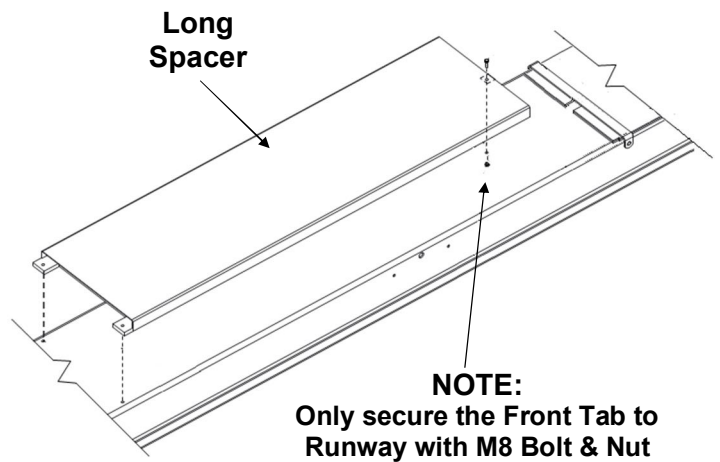

Fig. 4
- 5) Center and square the Long Spacer (#5) on Runway. Align the Tab Holes, bolting only the Front Tab to the Runway, secure using M8 Bolt & Nut - **Fig. 4**.